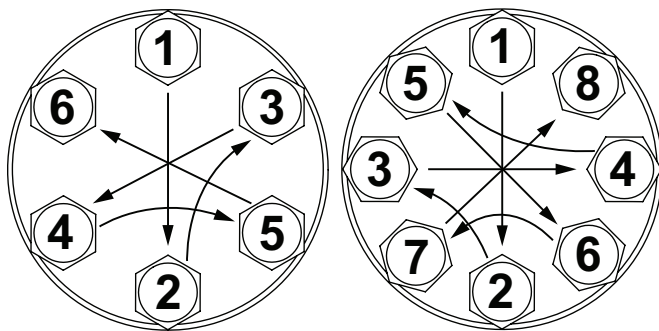

Figure 24 Bonnet Nut Tightening Pattern
- 6 Torque each bonnet nut (Key 16) to ¼ (25%) of the torque value listed in Tables 4 & 5, torque the nuts in the crisscross pattern shown in Figure 24. Hot torquing of valve nuts is not recommended.